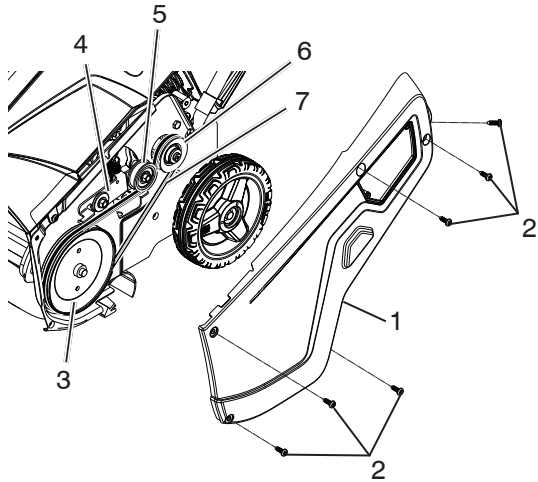

Figure 33
1. Remove the drive side cover by removing the six screws as shown in (Figure 33).
NOTE: Route the new auger v-belt first around the engine pulley, then the idler pulley, and finally around the drive pulley while pressing down on the front of the idler arm. (Figure 33).